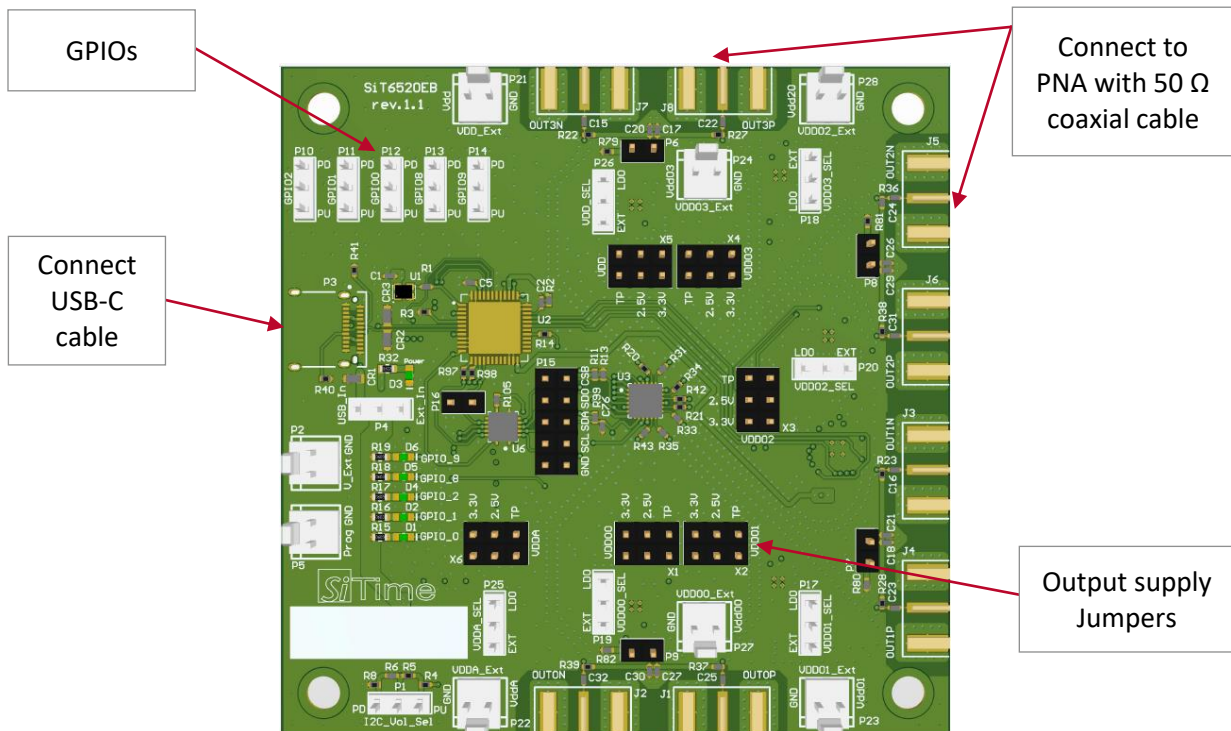

Figure 7. SiT6520EB Starter Connection Diagram
- EVB default configuration is shown in Figure 7.